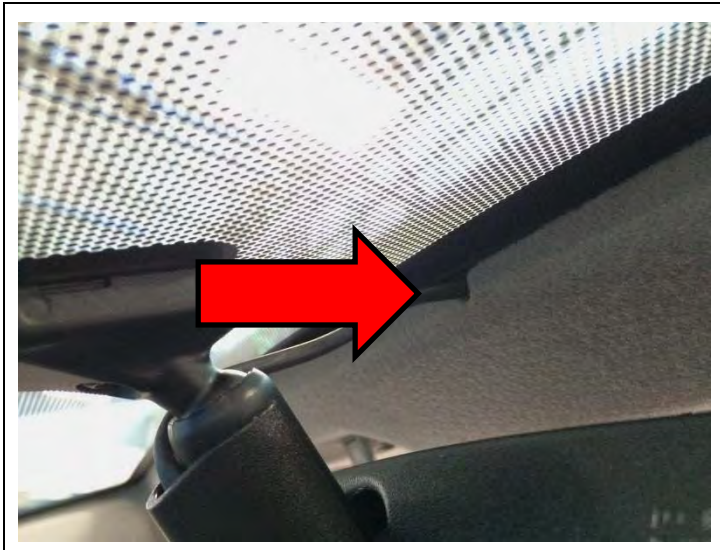

Figure 12
12. Route the mirror harness to overhead console opening using the precut notches on the front of the headliner. See figure 12.